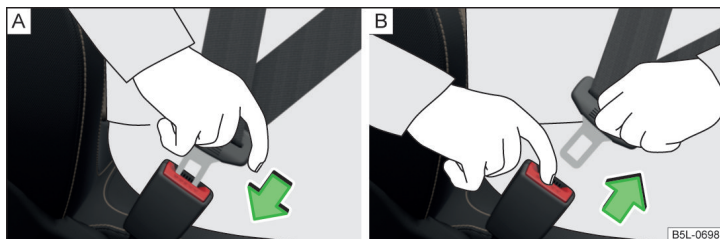

Fig. 5 Fastening/unfastening the seat belt
- Insert the lock tongue into the belt buckle » Fig. 5 - A that is part of the seat until it clicks into place.
- Grip the lock tongue and press the red button in the buckle » Fig. 5 - B, the lock tongue pops out.